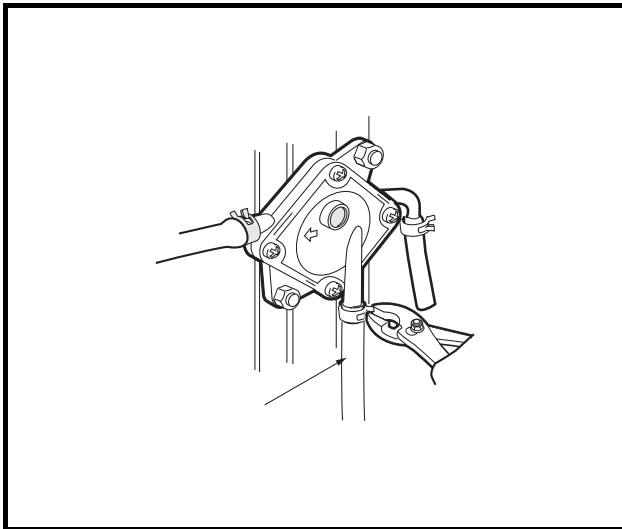

Figure 19-11 Impulse Line
- 4.3. Disconnect impulse line from fuel pump (**Figure 19-11, Page 19-7**).